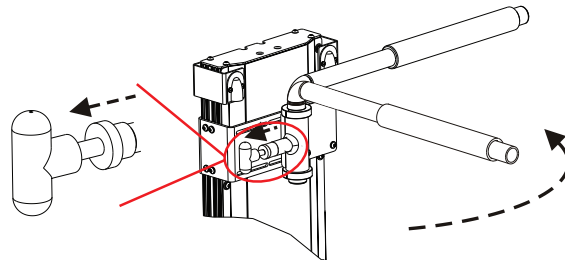

Figure 3-9
1. The hold-down arm may be rotated out of the way. Pull the T-handle and rotate the hold-down arm to the desired position. Release the T-handle to lock in place. *See Figure 3-9.*